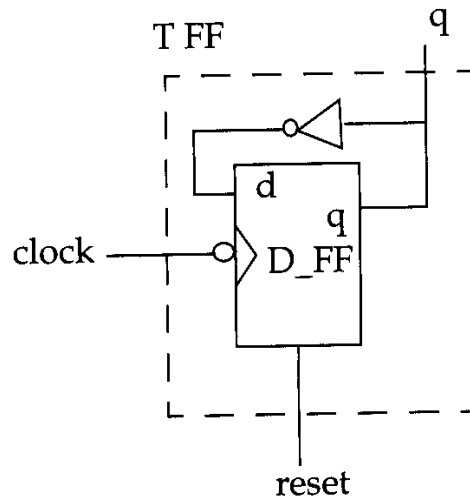

Fig.3.18: T-flipflop
- Fig.3.18 shows that the T-flipflop is built with one D-flipflop and an inverter gate.